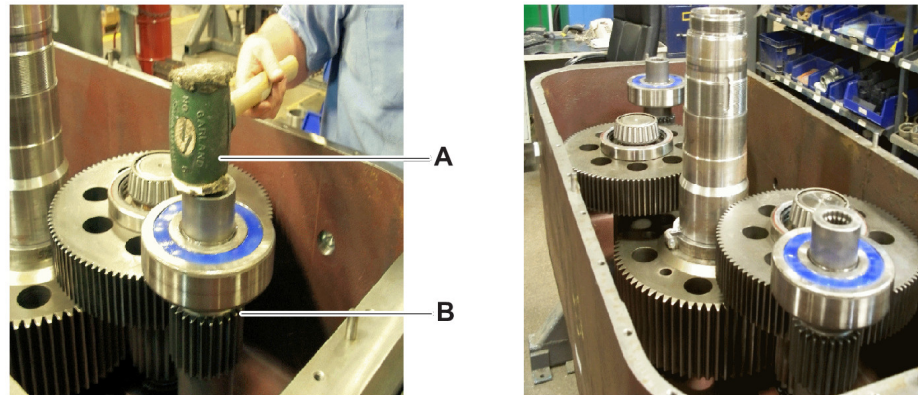

Figure 6
10. Apply a thin layer of Ronex-HD grease to the housing bores and the outer races on the lower input pinion bearings to help the input pinion shaft subassemblies (Figure 6, item A) slide easily into position.